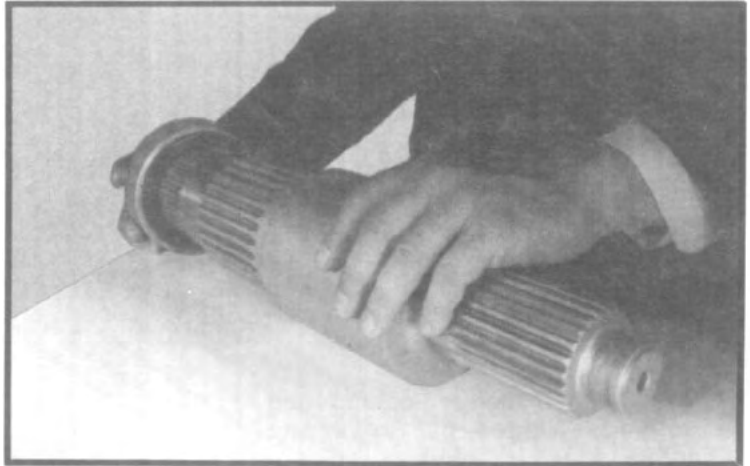

Fig. 89
2. Place the spacer ring over the large spline of the shaft and against the shoulder of the shaft with the inside chamfer facing toward center of shaft. (See fig. 89.)